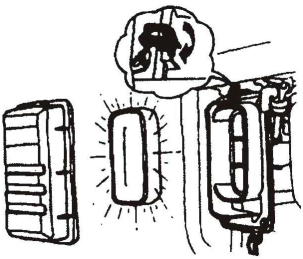

Figure 20
- 1.3.4 Put the filter element back to its original place, mount the cover and fasten it securely (Figure 20)